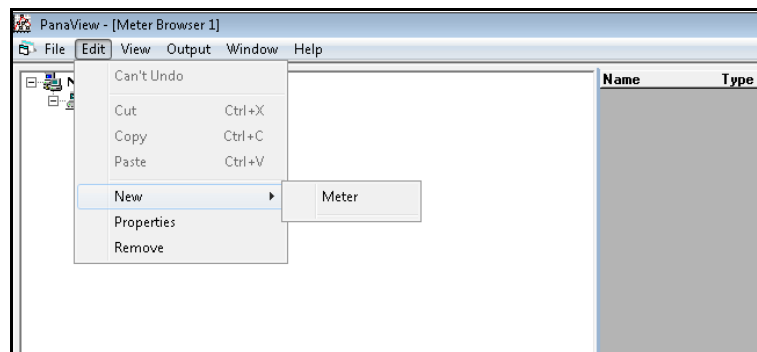

Figure 36: Add New Meter (using the Edit Menu)
2. Click and highlight the communication port to which the meter will be added and then open the “Edit” menu on the menu bar (see *Figure 36* below).